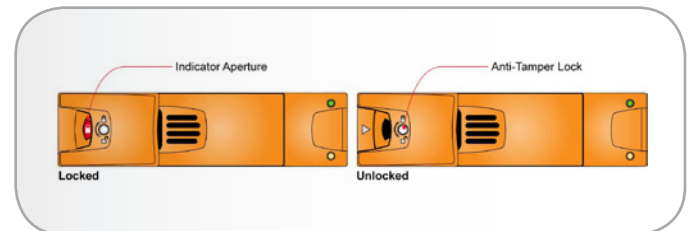

Fig. 33 - De-activating the Anti-tamper Lock
1. Carefully insert the lock key provided into the cutout in the handle and into its socket (Fig. 33).
2. Rotate the key in a counter-clockwise direction until the “red” indicator is not visible in the aperture beside the key. Repeat for all the disk drives (Fig. 33).